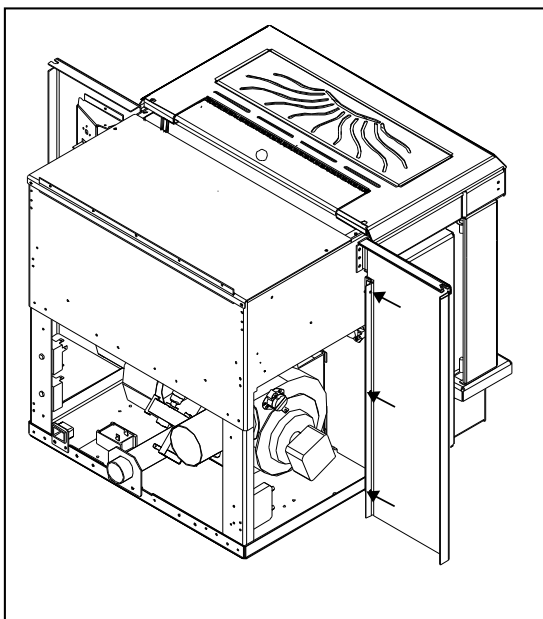

Figure 34: Panel placed on unit.
2. Using three (3) T-20 screws on each side attach the hinges on the side surround panels to the unit's side panels (refer to Figure 34).